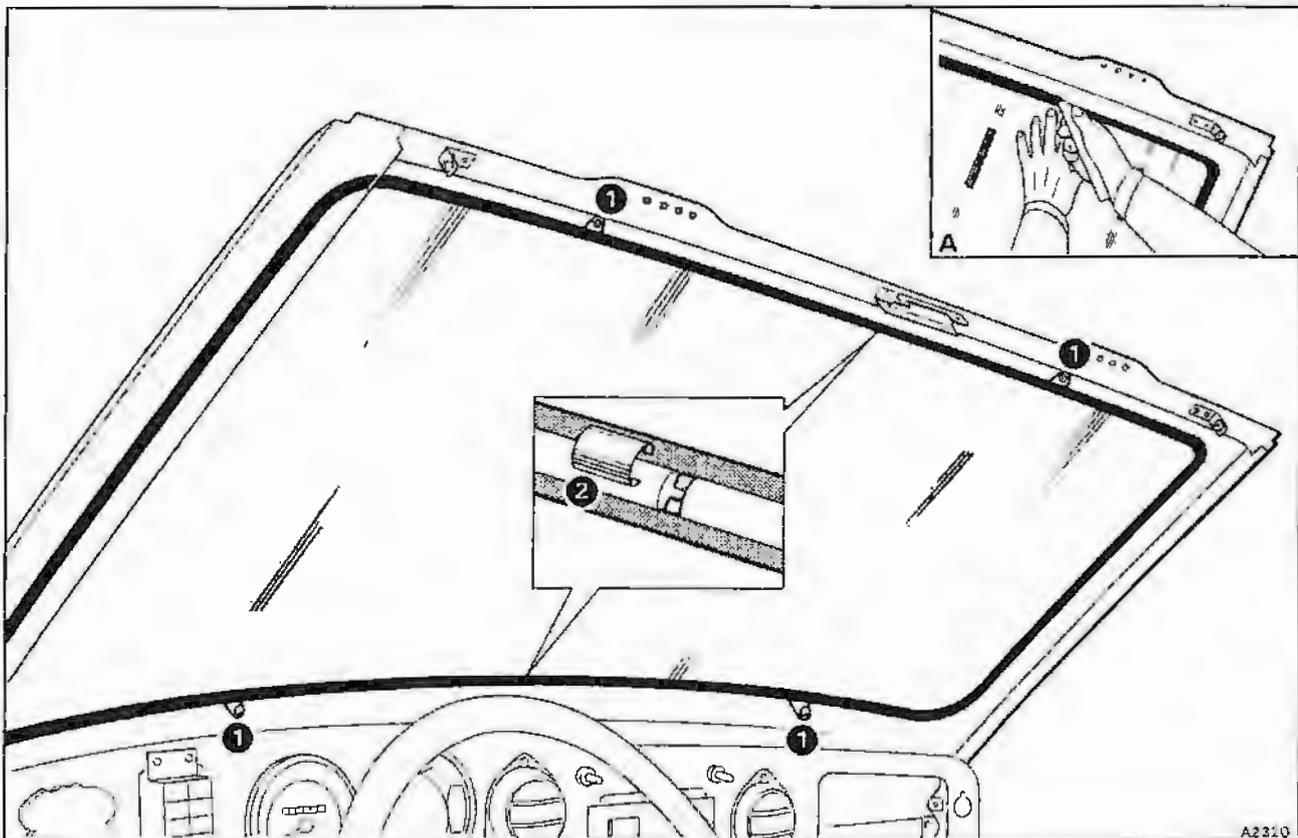

Fig. S24-2 Windscreen removal
7. Unscrew and remove the hood securing catches and polished finishers (item 5).
8. Unclip and remove the side header trim panels (item 6).
10. Remove the self-tapping screws (item 7) and lower the centre header trim panel.
11. Lift the 'A' post trim panels (item 8) to disengage the rear retaining clips and remove. Remove the top roll and demister panel (see Section S29).
12. *On cars conforming to a North American specification, remove the self-tapping screws, setscrews, and washers securing the windscreen finisher retention plates to the body (see fig. S24-2, item 1).*
13. From outside the car, carefully unclip the trim pieces (item 2) covering the windscreen finisher joints.
15. From inside the car, ease the lip of the seal over the body aperture flange (see fig. S24-2, inset A). A small steel rule or a similar tool will assist during this operation. Start in the top corners and work towards the centre, simultaneously applying pressure to the glass. An assistant will be required to support the glass/seal assembly as it is pushed out of the aperture. Avoid sharp blows as this may damage the glass or paintwork. A steady pressure is all that is required.